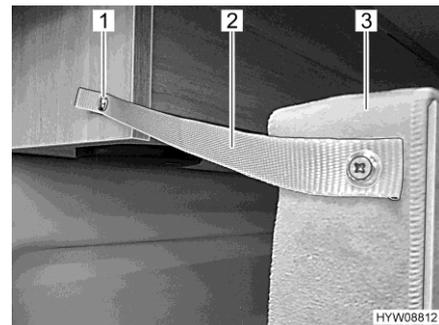

Fig. 56 Securing, back
- Secure the bed (Fig. 56,3) to the roof storage cabinet using the securing strap (Fig. 56,2) and snap fastener (Fig. 56,1).
- Undo the snap fastener (Fig. 56,1) on the roof cabinet.